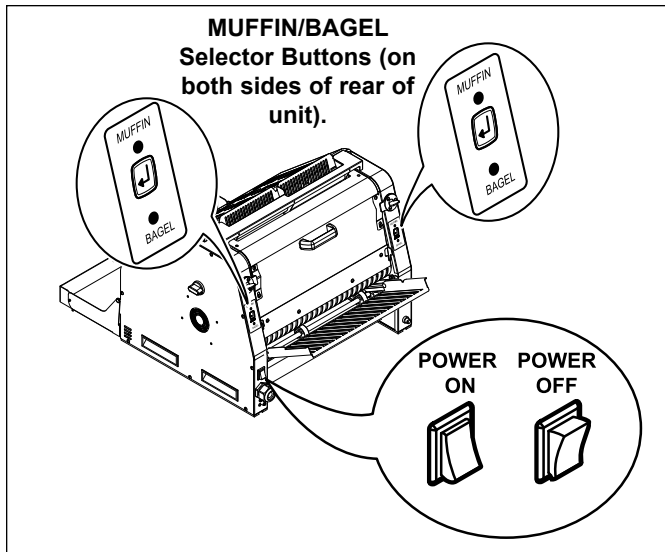

Figure 6. Purging Products: Rear of Unit
With the unit in a READY or WAIT mode, you can also press and hold BOTH **MUFFIN/BAGEL** selector buttons together to purge product from the unit. These buttons are located at the rear of the unit (Figure 6).
3. Press and hold both **MUFFIN/BAGEL** selector buttons on the back of the unit (Figure 6) until to uncleaned portion of the belt is exposed. Repeat Step 2 on the uncleaned portion of the belt.